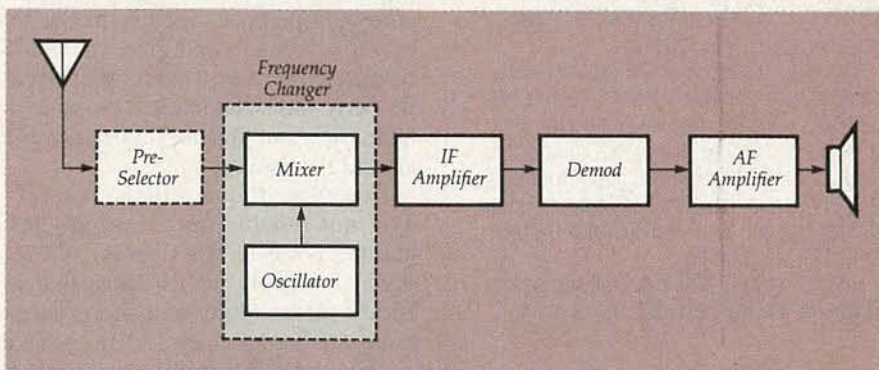

FIG. 11—BLOCK DIAGRAM of a super heterodyne receiver.
A block diagram of a basic superheterodyne receiver is shown in Fig. 11. The preselector consists of one or more tuned RF stages, but in less expensive receivers it is often omitted. As in the heterodyne receiver, the incoming signal is fed to a mixer, where it beats with a signal supplied by a local oscillator. However, unlike the heterodyne receiver, the local oscillator is designed so that the difference frequency is on the order of several hundred (or more) kHz. Known as the *Intermediate Frequency* (IF), the difference signal is then amplified, demodulated to recover the audio signal, and then the audio is amplified again. The great advantage of the superheterodyne design was, and still is, the large amount of selectivity that can be supplied by the IF stages, which are fixed-tuned to a selected frequency.